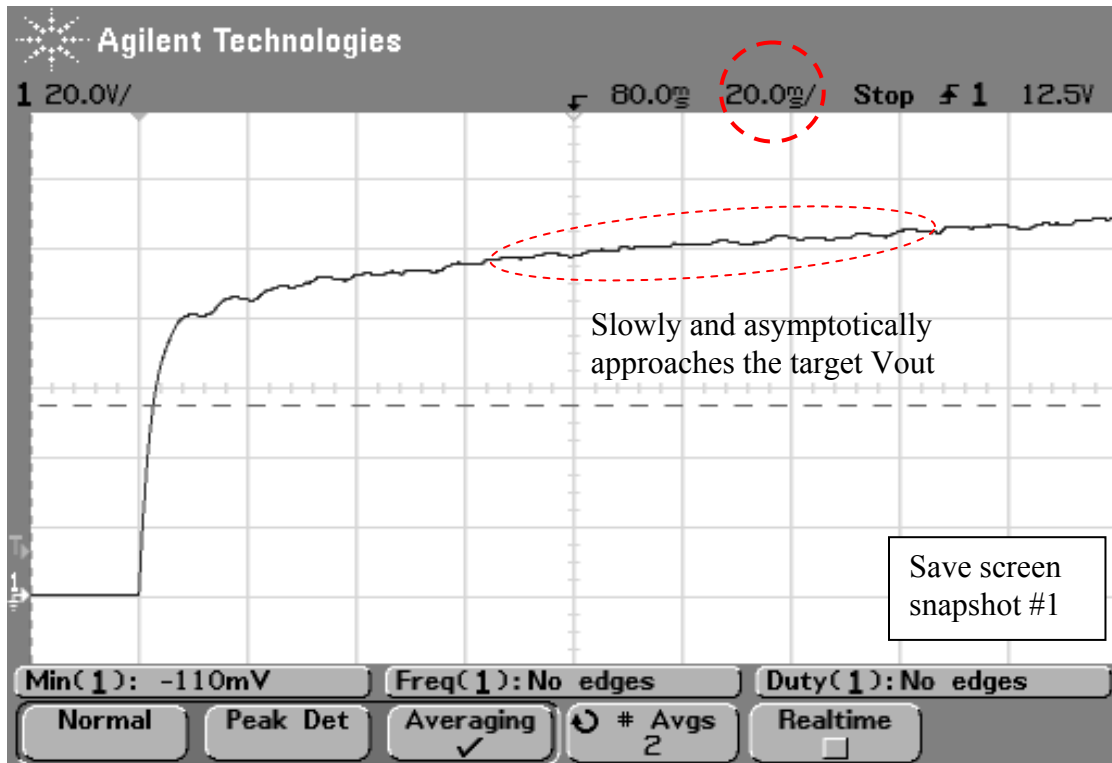
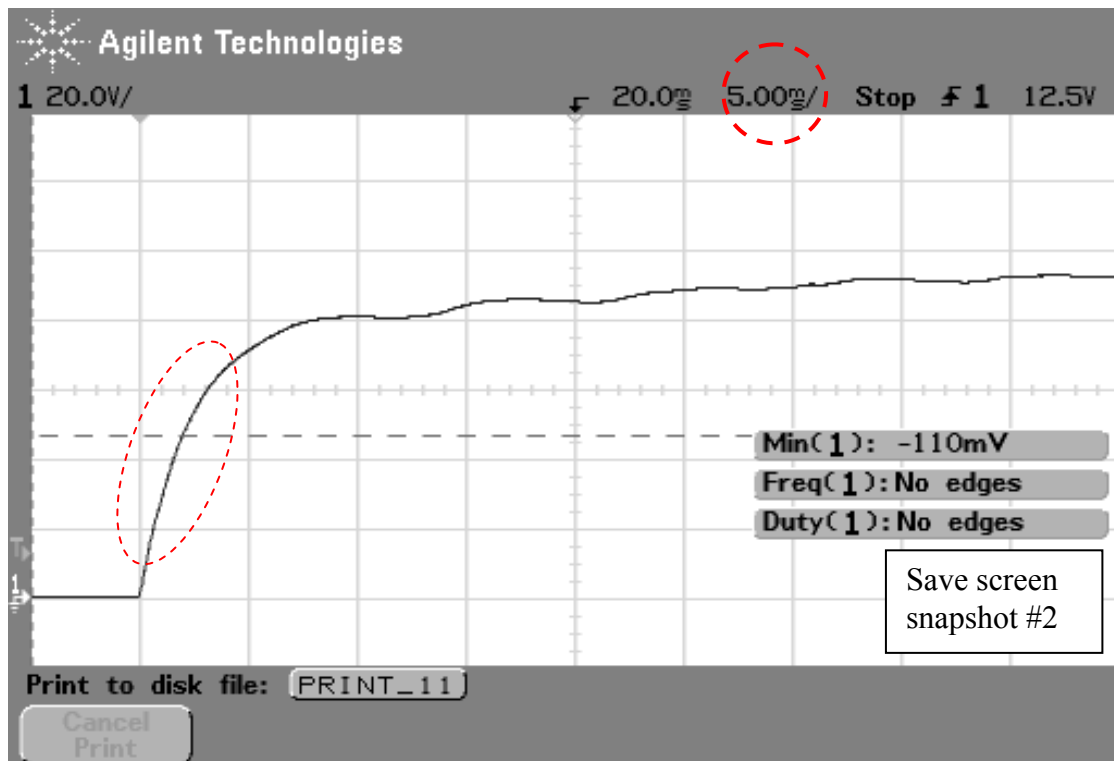

Figure 5. The Slow Time Constant of V_{out} during the Open Loop Bump Test
Figure 6. The Fast Time Constant of V_{out} during the Open Loop Bump Test
Figure 5, is due to the dynamics of the transformer and DBR. The fast one, in Figure 6, is due to the dynamics of the converter itself. Two time constants are often observed when switching large capacitors in power systems and is explained by the concept of “voltage equalization” as follows: for the first few msec, the DBR capacitor and equivalent converter capacitor (reflected through the converter duty cycle switching), together with converter resistance, form a series circuit. The DBR capacitor voltage falls slightly, and the converter capacitor voltage rises significantly. Charge is conserved. The two capacitors then act in parallel with a common voltage. The dynamics of the transformer plus DBR take effect, replenishing the DBR and converter capacitors gradually.
- For our purposes, the DBR cap is essentially fully charged when V_{out} is being controlled. Thus, it is appropriate for us to use the fast time constant as our process time constant T . Estimate T from Figure 6 as the time required to rise to $(1 - e^{-1}) = 0.63$ of the asymptote. Expect T to be about 2 msec. This corresponds to the RC product of converter output capacitance (1500 to 1800 μF) and converter resistance $R = -\frac{\partial V}{\partial I}$ (i.e., about one ohm of Thevenin equivalent resistance).
(this is a 5 msec/div scale zoom-in of Figure 5)